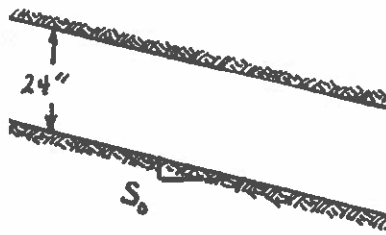

Figure 4. Sewer pipe sketch.
9. (10 points) A 24-inch diameter sewer pipe, with Manning's  $n$  of 0.015 is laid on slope  $S_0 = 0.01$  as shown in Figure 4.